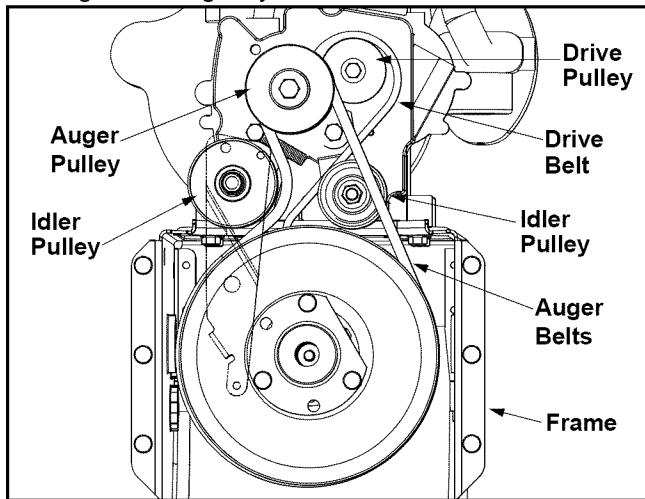

Figure 16
- Roll the front and rear auger belts off the auger drive pulley. See Figure 16.
- Pull the idler pulley up and lift the belt off the wheel drive pulley and friction wheel disc. See Figure 16.